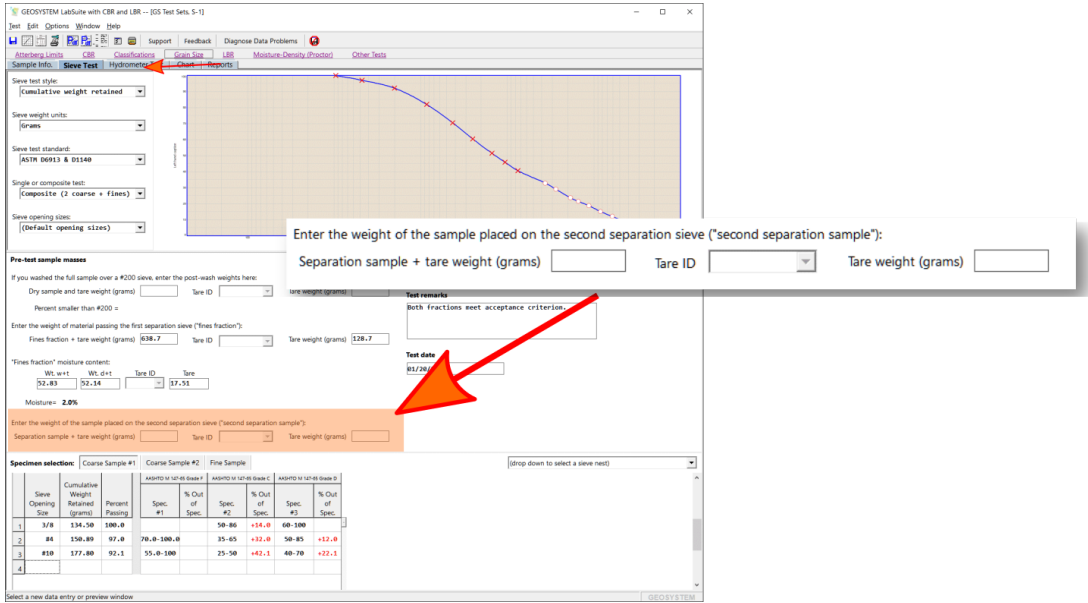

Figure 3.15: Composite Test — Second Separation Sample Mass
- If your test included a second separation step (giving you two coarse samples and one fine sample), the program will of course need the mass of the sample passing the second separation sieve. This mass is entered in the highlighted box shown in Figure 3.15